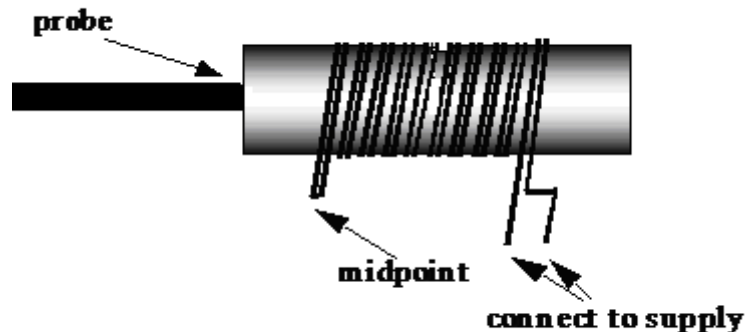

Figure 4. Wiring the double-wrap coil
- Build the double-wrap coil around the vacuum hose (if you think the wire is too short, use the steel tube) as shown in Figure 4. Notice that there are five "wraps" on either side of the probe, but since each wrap consists of two wire loops, you will actually see ten wire loops on either side of the probe.